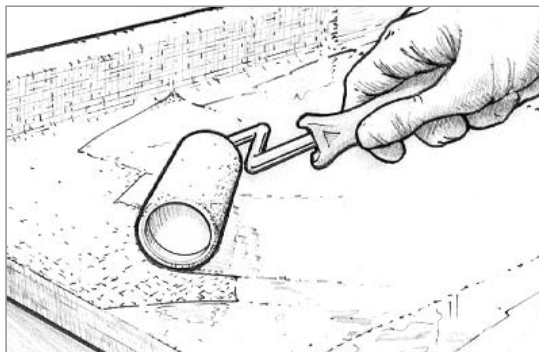

Figure 6-16 Apply the first coat of unthickened epoxy to fill the weave of the cloth before the wet-out coat reaches its final cure phase.
9. Coat the surface to fill the weave before the wet-out reaches its final cure stage (*Figure 6-16*). Follow the procedures for epoxy barrier coating under Section 6.4.6. It will take two or three coats to completely fill the weave of the cloth and to allow for a final sanding that will not affect the cloth.